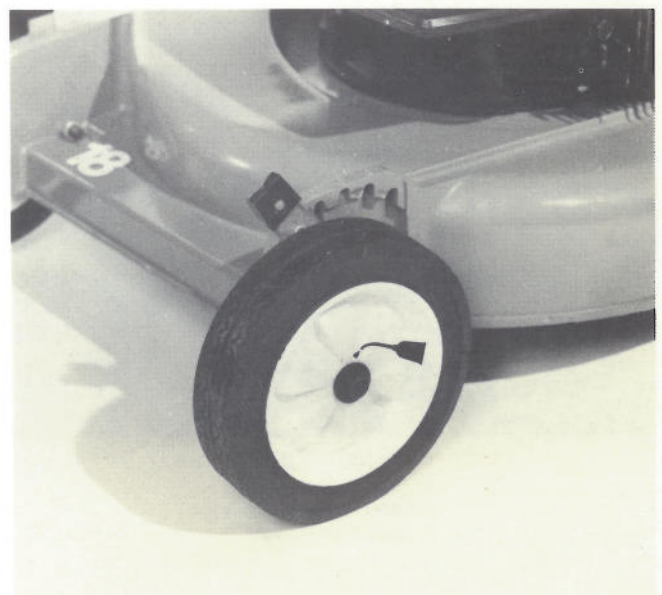

Figure 28
1. After every 25 hours of operation or at the end of the mowing season, apply 2 or 3 drops of light oil on the inside of all the wheel bolts (Fig. 28). Spin the wheel to distribute oil into the wheel bushings. Wipe up any excess oil.